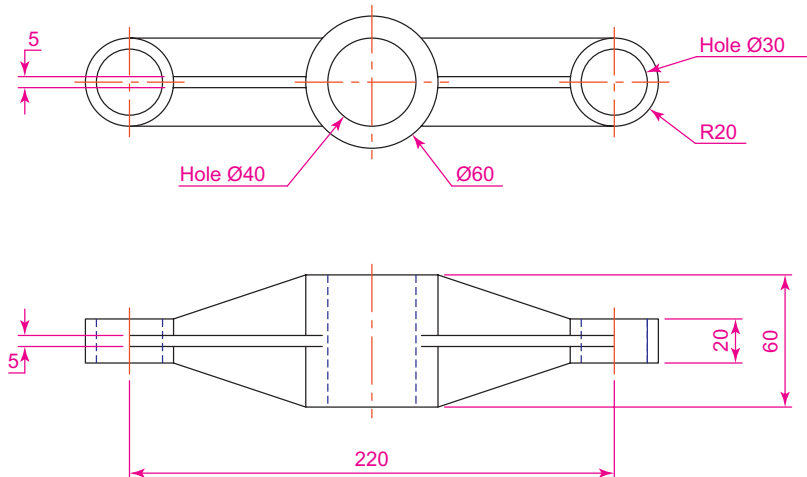

Fig. 14.21 First example – Slice – the two-view drawing
1. Construct a 3D model of the rod link device shown in the two-view projection Fig. 14.21 on a layer colour **green**.